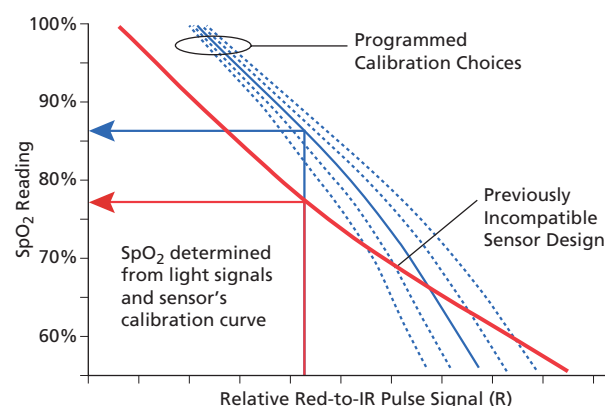

Figure 3
Pulse oximeters measure precisely this red-to-infrared pulse Modulation Ratio (R) to determine saturation. The relationship between R and arterial saturation (SaO_2) follows a smooth line that serves as the sensor calibration curve (e.g., bold blue curve in Figure 3).
The impact of this more orange-colored emitter is to shift and rotate the sensor's calibration curve—with more of a change at low saturation than high (see Figure 3, dotted curves to the right of the solid
Manufacturers are also constrained in creating new types of sensors, because sensor designs that do not precisely conform to the calibration curves preprogrammed in the monitor would result in degraded accuracy. Though in the Nellcor RCAL system many sensors can be developed to fit one or more of the available choices (blue curves in Figure 3), other designs may only moderately fit or miss by an amount that would result in clinically unacceptable accuracy (as depicted by the red curve in Figure 3). This limits possibilities, such as new sensors designed for more convenient placement sites on the patient.